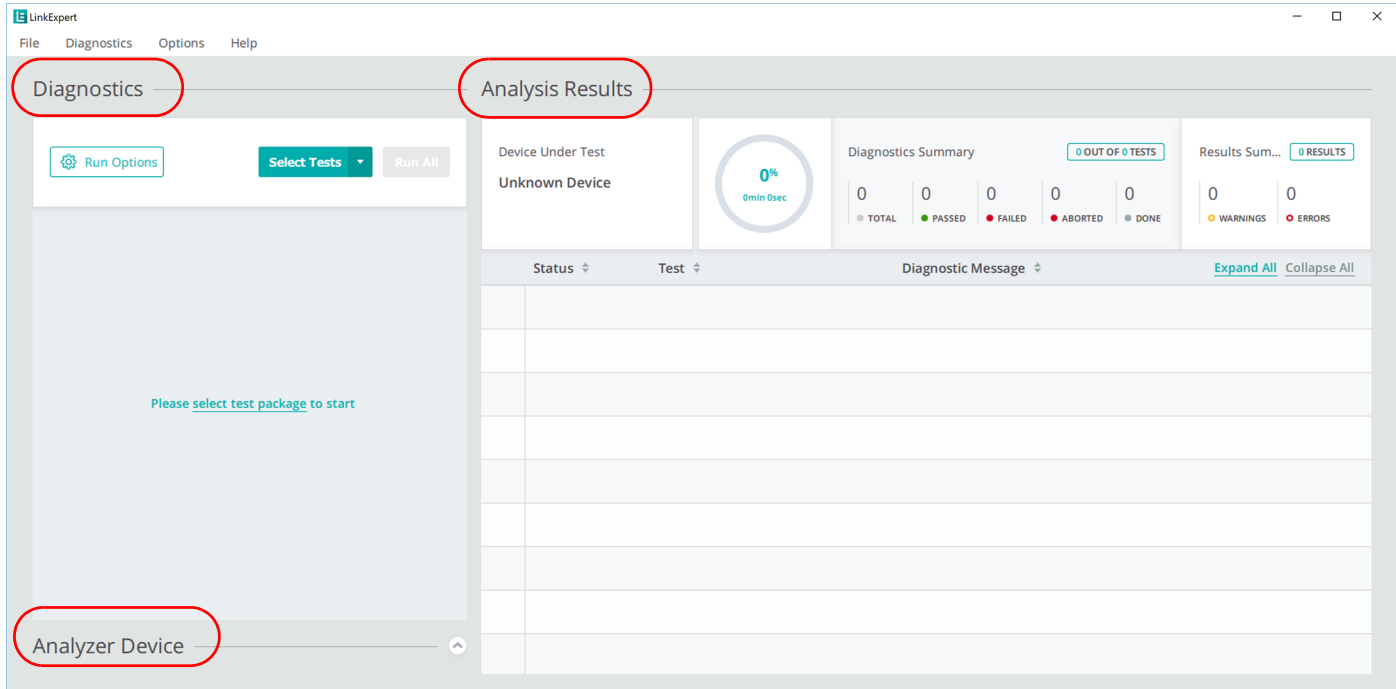

Figure 2.10: LinkExpert User Interface
11. Click on the LinkExpert icon and the following LinkExpert User Interface will be displayed. See Figure 2.10 on page 33.